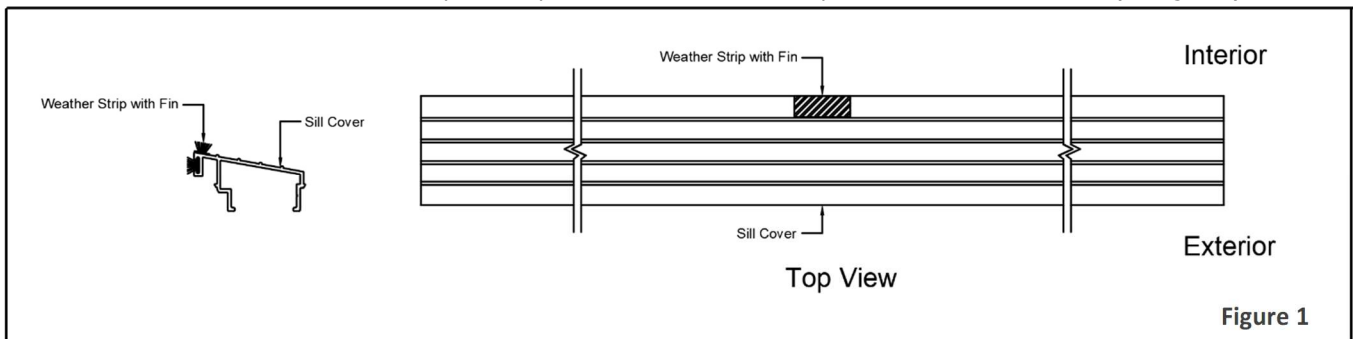

Figure 1
4.1 Peel the back of the 1"x 3/8" weather strip with fin provided and stick it on the top, interior side of the sill cover (see figure 1).